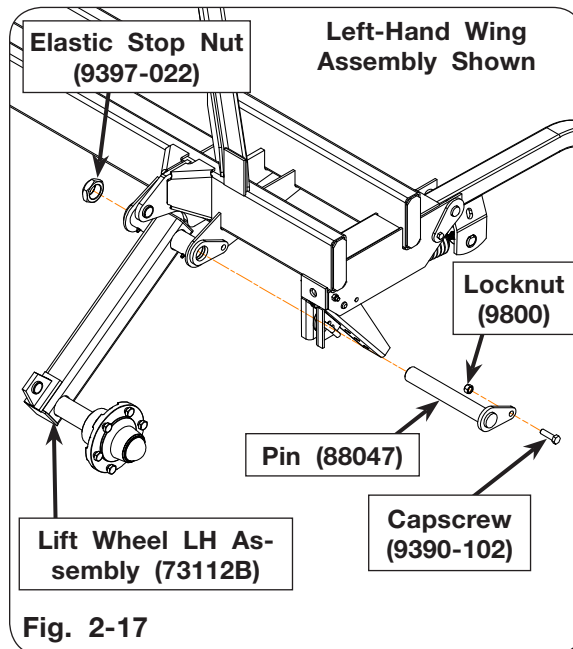

Fig. 2-17
1. Attach left-hand lift wheel assembly (73112B) to left-hand side of unit with 1 1/2" Dia. x 10 1/8" pin (88047), 1 1/2"-12UNF elastic stop nut (9397-022), 1/2"-13UNC x 1 3/4" capscrew, and locknut (9800) Fig. 2-17. Hardware can be located in the parts box/crate (87919B-1245, or 76572B-1245D).